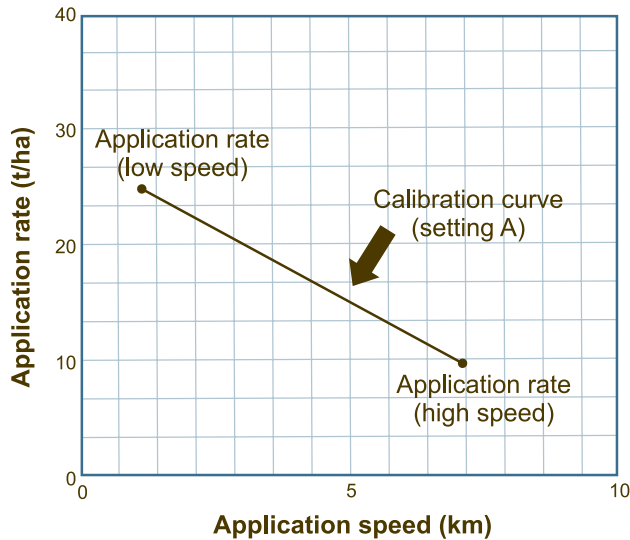

Figure 4.6.4 Sample Calibration Graph for a Manure Spreader
2. On a piece of graph paper, plot the application rate for the setting at low and high speeds on a graph with application rate on the vertical axis and speed on the horizontal axis (Figure 4.6.4).